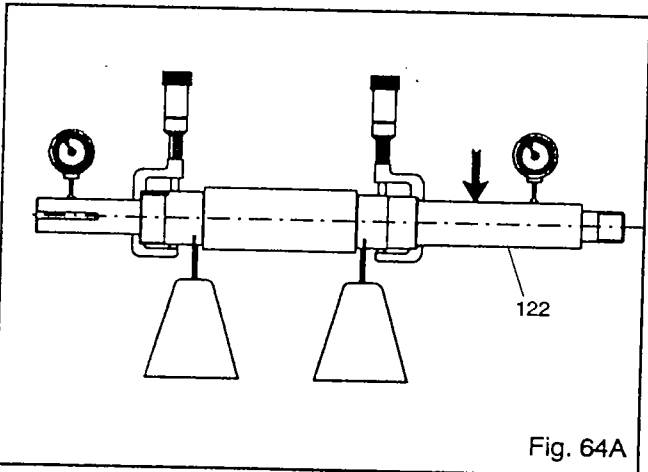

Fig. 64A
1. Check bearing fits. If any are outside the tolerance in Table 8, replace the shaft (122) (Fig. 64A).